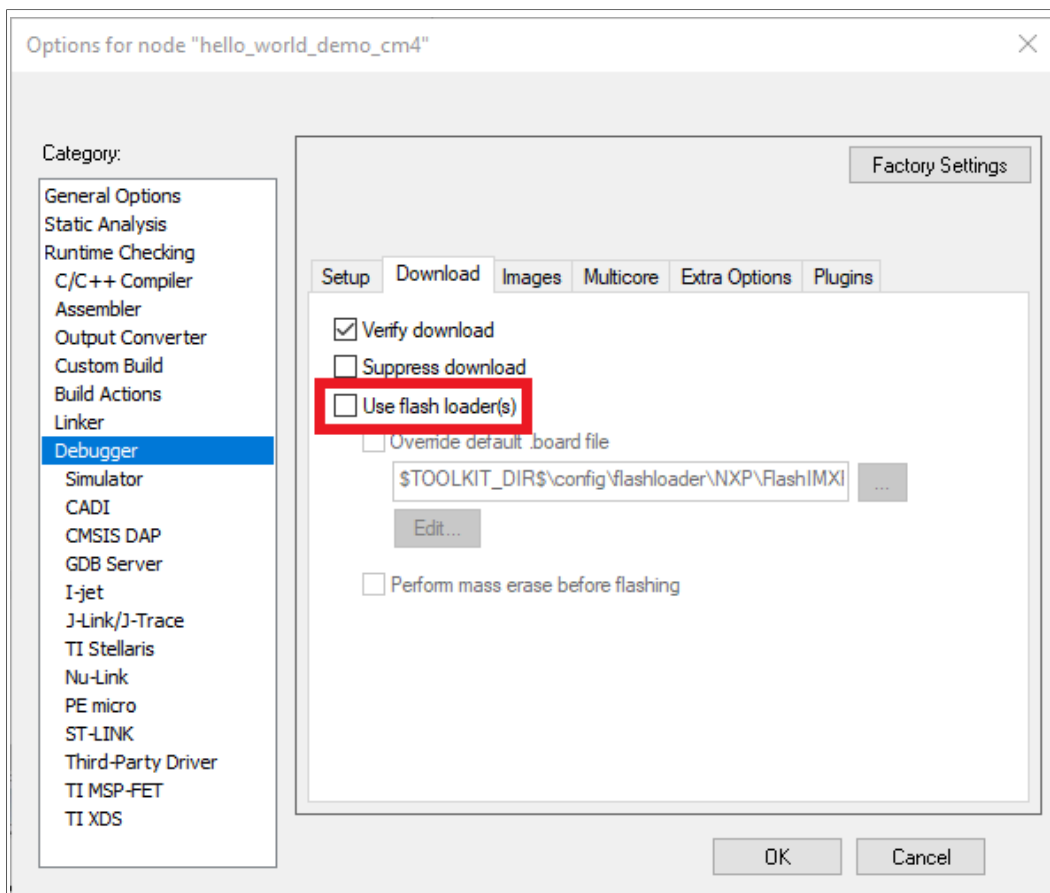

Figure 28. Uncheck Use flash loader(s)
- When downloading the `cm4` project, uncheck **Use flash loaders**, as shown in Figure 28, and change the contents of command line options as below:
Figure 28. These steps are common for both single core and dual-core applications in IAR.